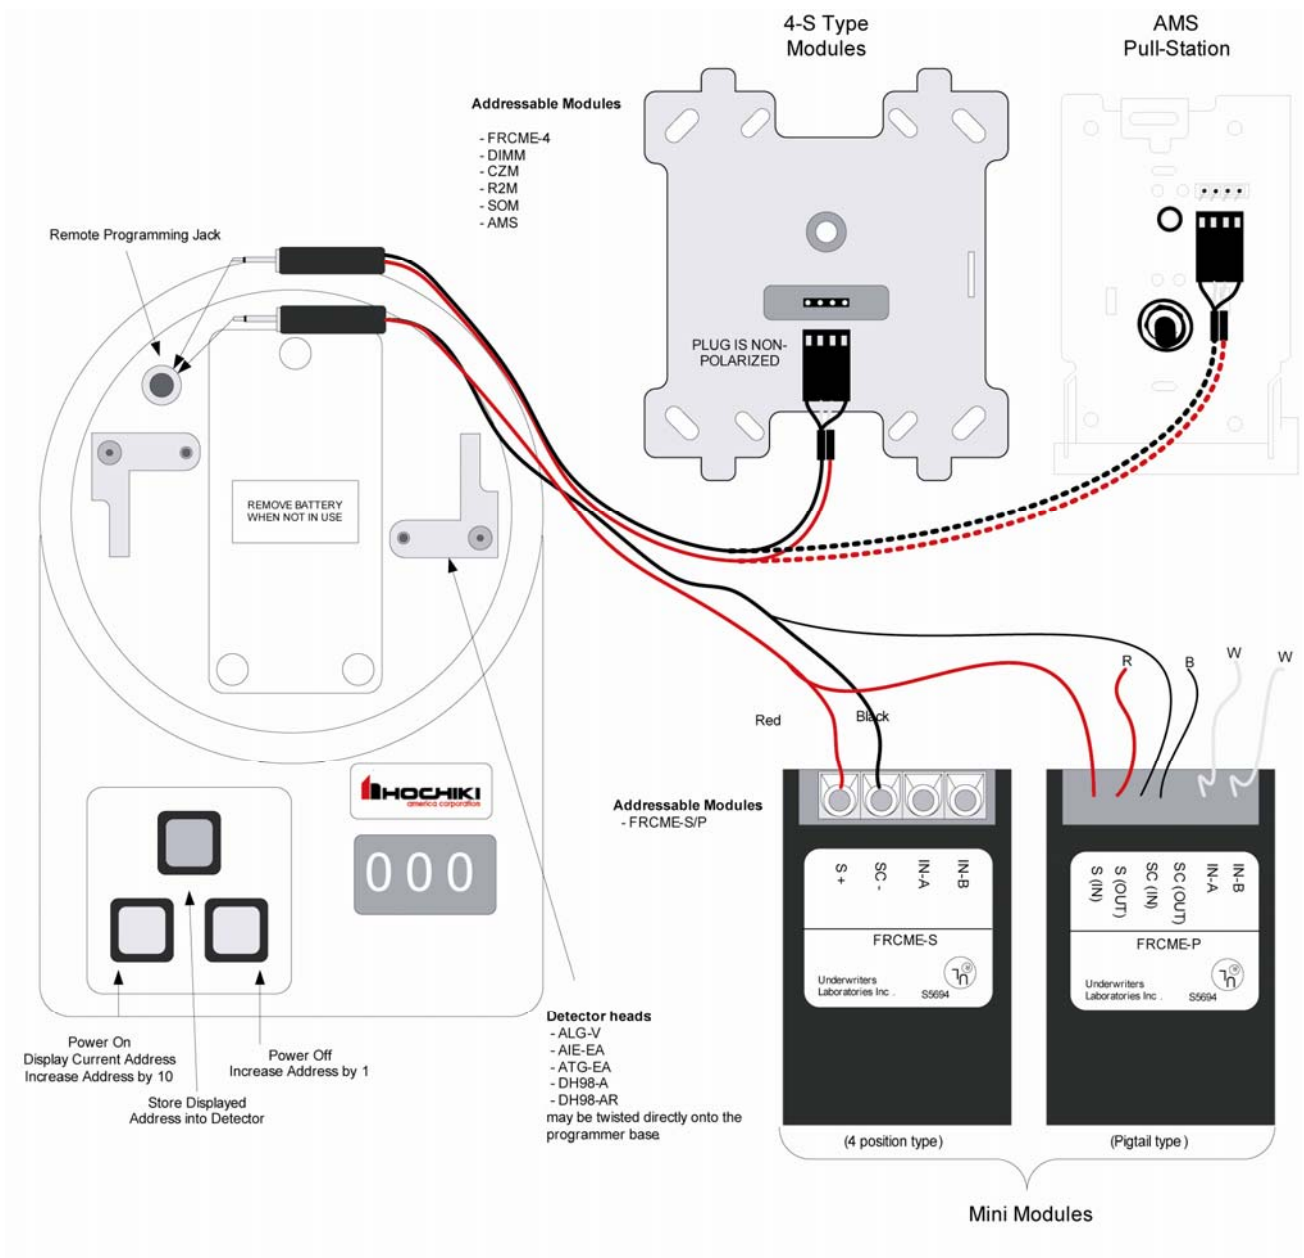

Figure 5.4 Hochiki TCH-B100-NS Programmer Connections
2. Using the Hochiki TCH-B100-NS programmer as shown in Figure 5.4, program the appropriate address into each analog addressable device.
This section applies to the following Hochiki analog detectors - ALG-V, AIE-EA, DH-98 and ATG-EA. Follow these steps to program a new address into any one of these analog detectors. (Refer to Figure 5-4)
This section applies to the following Hochiki addressable modules - FRCME-4, R2M, DIMM, CZM, SOM, and AMS. Follow these steps to program a new address into any of these addressable modules. (Refer to Figure 5-4)
This section applies to the Hochiki FRCME-S and FRCME-P addressable mini-module. Follow these steps to program a new address into any of these addressable modules. (Refer to Figure 5-4)